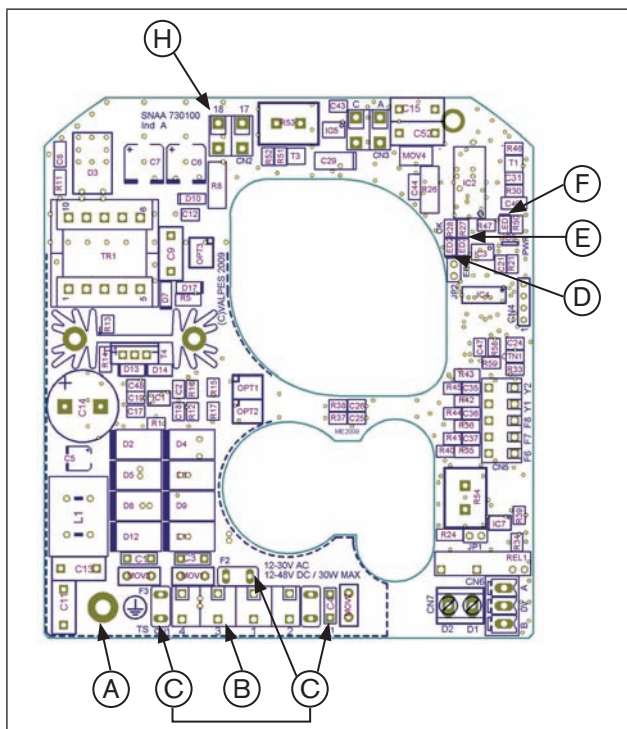
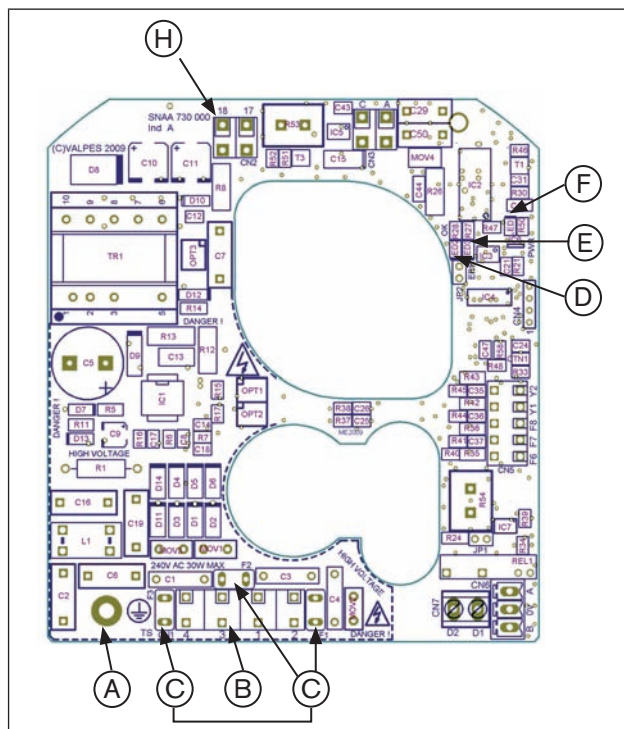
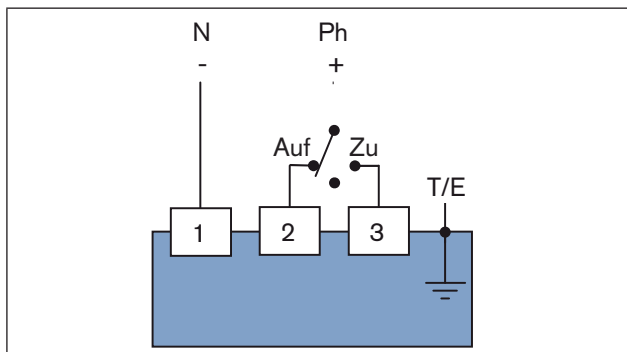
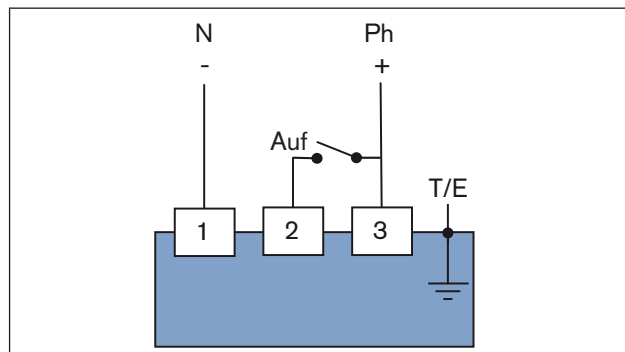

Figure 14: Power supply circuit board 15-30 V 50/60 Hz (12-48 V DC)
Figure 15: Power supply circuit board 100-240 V 50/60 Hz (100-350 V DC)
Figure 16: Three points mode
Figure 17: Open / Closed mode / Emergency current model
- To do this, loosen earthing screw and attach eyelet of the earthing cable with the earthing screw (see “Figure 14” and “Figure 15”).
- Connect cable according to the required control type (see "Figure 16" and "Figure 17") to the terminal strip Pos. B of the power supply card (see "Figure 14" and "Figure 15").
Operating principle for Open / Closed mode (see "Figure 17") :